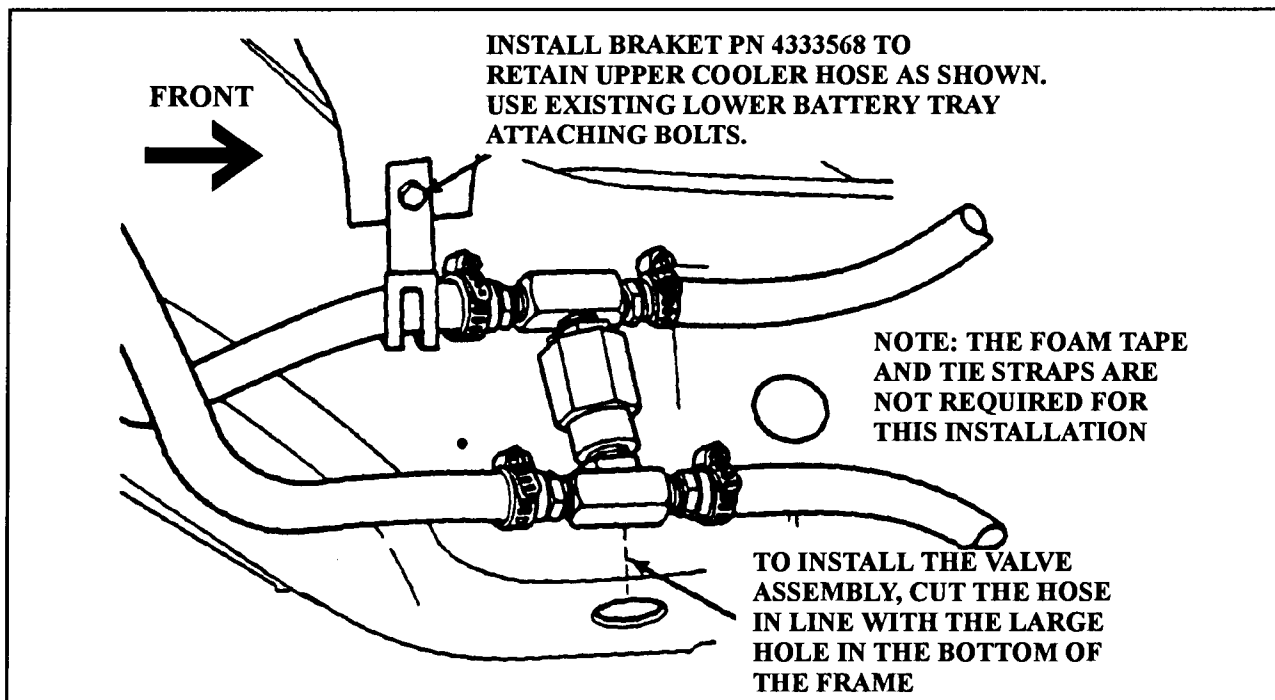

Figure 50
2. Mark the cooler hoses in line with the center of the large hole in the bottom of the frame rail, as shown in Figure 50.
4. Slide two of the supplied clamps over the hose ends and install the hoses onto the cooler "in" (to cooler) side of the bypass valve assembly. (Refer to Figure 50).
7. Install bracket, OEM part number 4333568, to retain the upper cooler hose, using the existing lower battery tray bolt, as shown in Figure 50.
9. Tighten all clamps, and position the valve and hose assembly in the clip as shown in Figure 50.